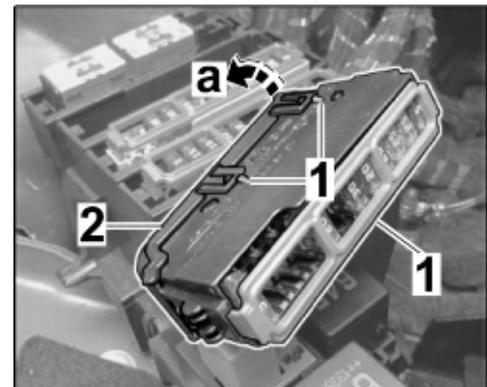

Figure 9
2.4.3 Release cap bottom from fuse strip B and C on both sides and unclip it (⇒ *Figure 9 -a-*).